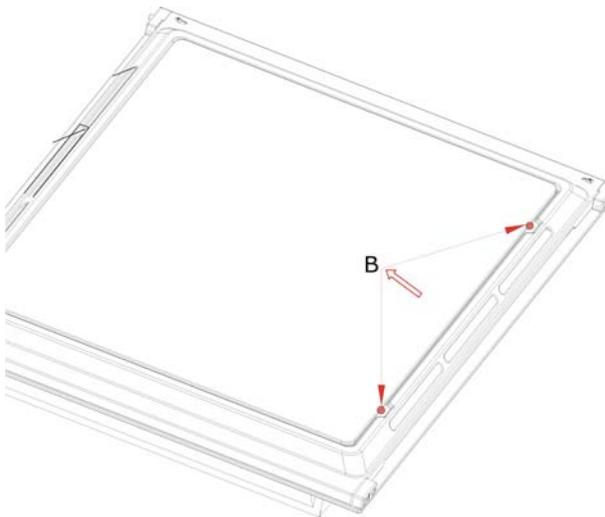

Fig.12-3
b) put the oven door on a flat surface, use a flatten objects, such as coins, to levering the glass at the position B.(fig.12-3)